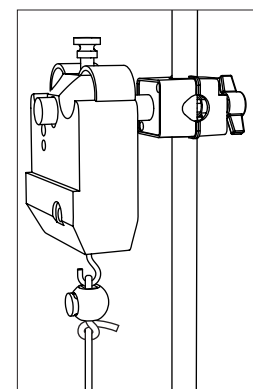

Figure 11: Force sensor
5. Mount the force sensor on the stud (Figure 11).